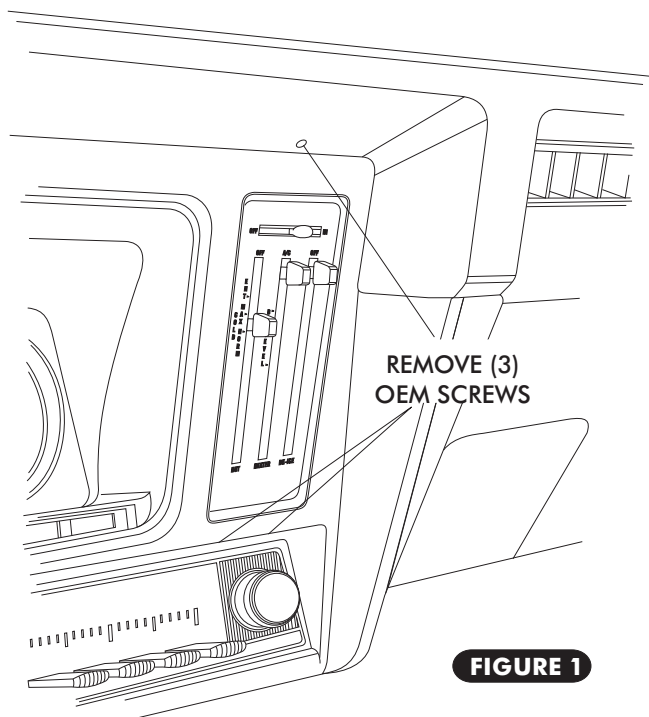

FIGURE 1
- REMOVE THE (3) OEM MOUNTING SCREWS FROM INSTRUMENT PANEL OF DASH. SEE FIGURE 1 BELOW.